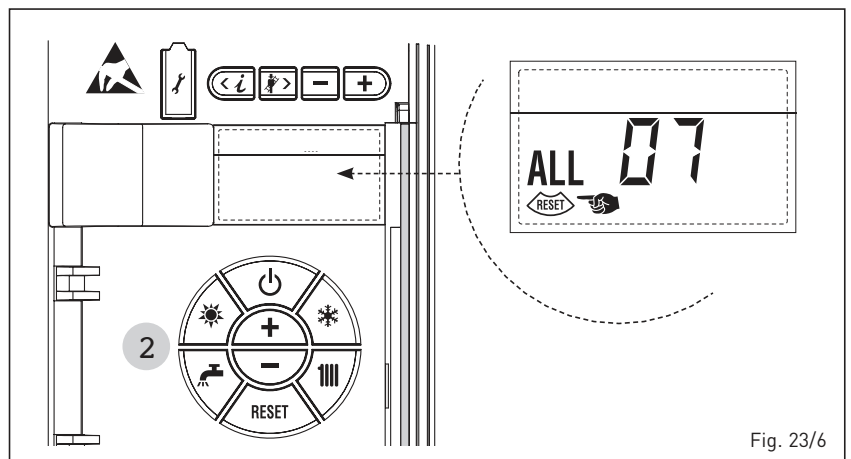

Fig. 23/6
- **ANOMALÍA LLAMA PARÁSITA “ALL 08” (fig. 23/7)**